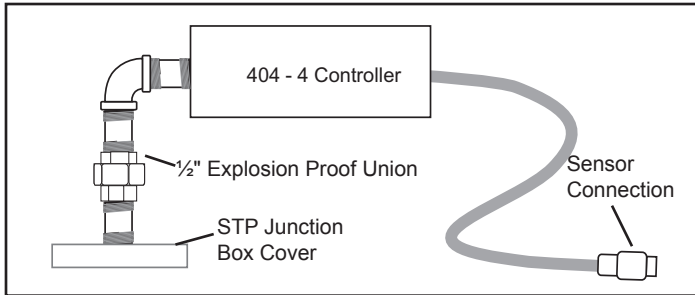

Figure 3: Connection to STP
4. Disconnect the union (Figure 3) and carefully position the connected wires into the electrical box. Thread the reducing bushing into the threaded opening, being careful not to scrape or twist the wires. Reconnect and tighten the union.